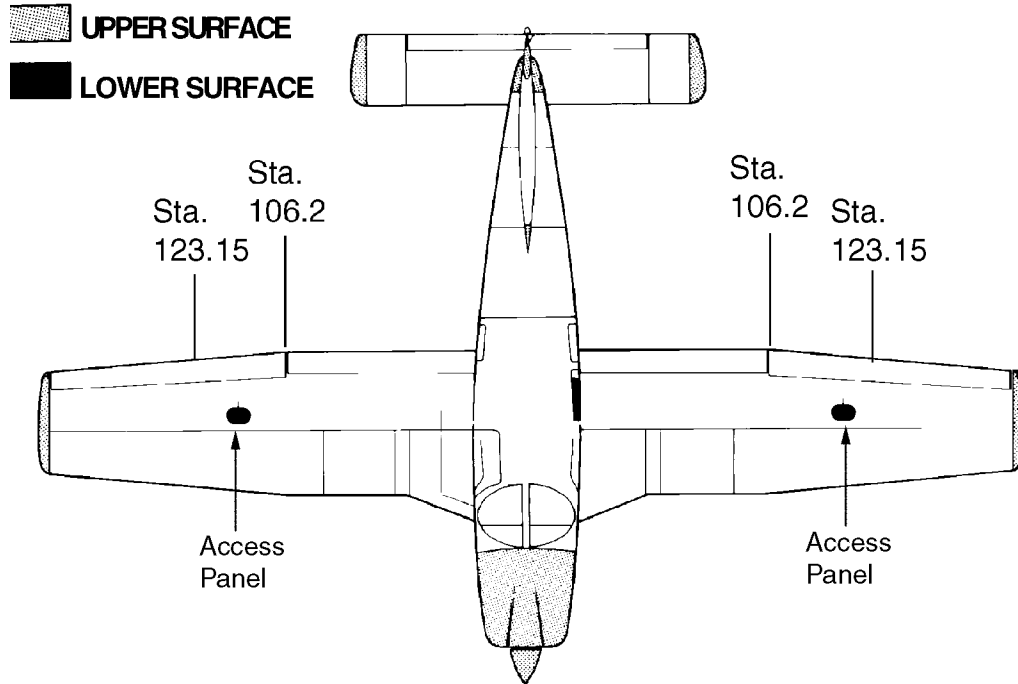

Figure 2
1. Gain access to inspect the subject ribs through an access opening in the lower skin that is located between Sta. 106.19 and Sta. 123.15 ribs, aft of the main spar, in each wing. See Figure 2.